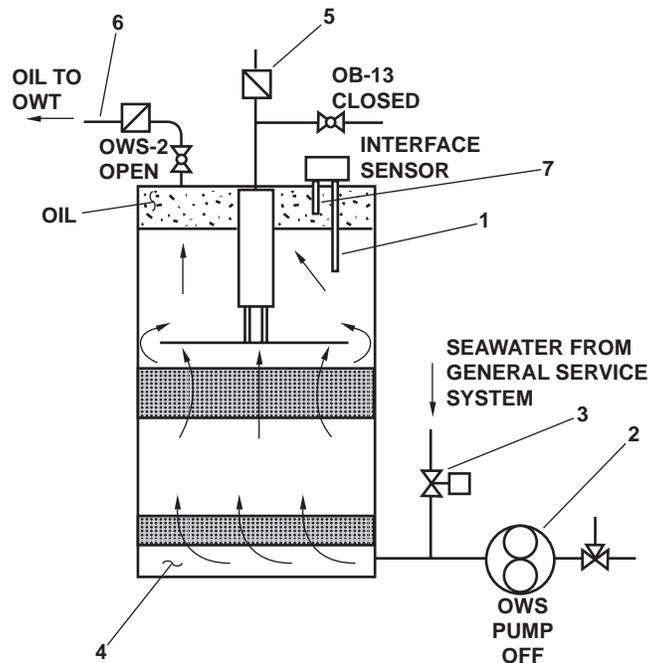

Figure 2. Oil Discharge Mode
The OWS contains an oil-water interface sensor mounted in the top of the tank. The sensor has two probes, each a different length. An electrical current flows between the probes and the tank wall, and the control unit measures the conductivity of the surrounding fluid. Water is highly conductive, while oil and air are not. Therefore, when the tank is full of water, the control unit will sense the high conductivity. When enough oil has accumulated to cover the lower probe tip (figure 2, item 1) (approximately 8-1/2 gallons (32.2 L)), the control unit will sense the drop in conductivity and cause the OWS to enter oil discharge mode. At this point, the red OIL DISCHARGE indicator on the control panel will illuminate. In the oil discharge mode, the OWS pump (figure 2, item 2) stops, and the backflush inlet solenoid valve (figure 2, item 3) opens to apply seawater pressure (reduced to 12 PSI (0.9 bar)) to the OWS tank. Seawater then enters the tank bottom (figure 2, item 4), backflushing the coalescer beds and displacing the accumulated oil in the upper tank zone. A check valve (figure 2, item 5) prevents back-flow through the inlet suction line. The oil is thus forced out through the oil discharge line (figure 2, item 6) and into the OWT. Once the oil is discharged and the displacing water contacts the upper interface probe (figure 2, item 7), the backflush valve will close, and the pump will start, resuming the normal processing mode.